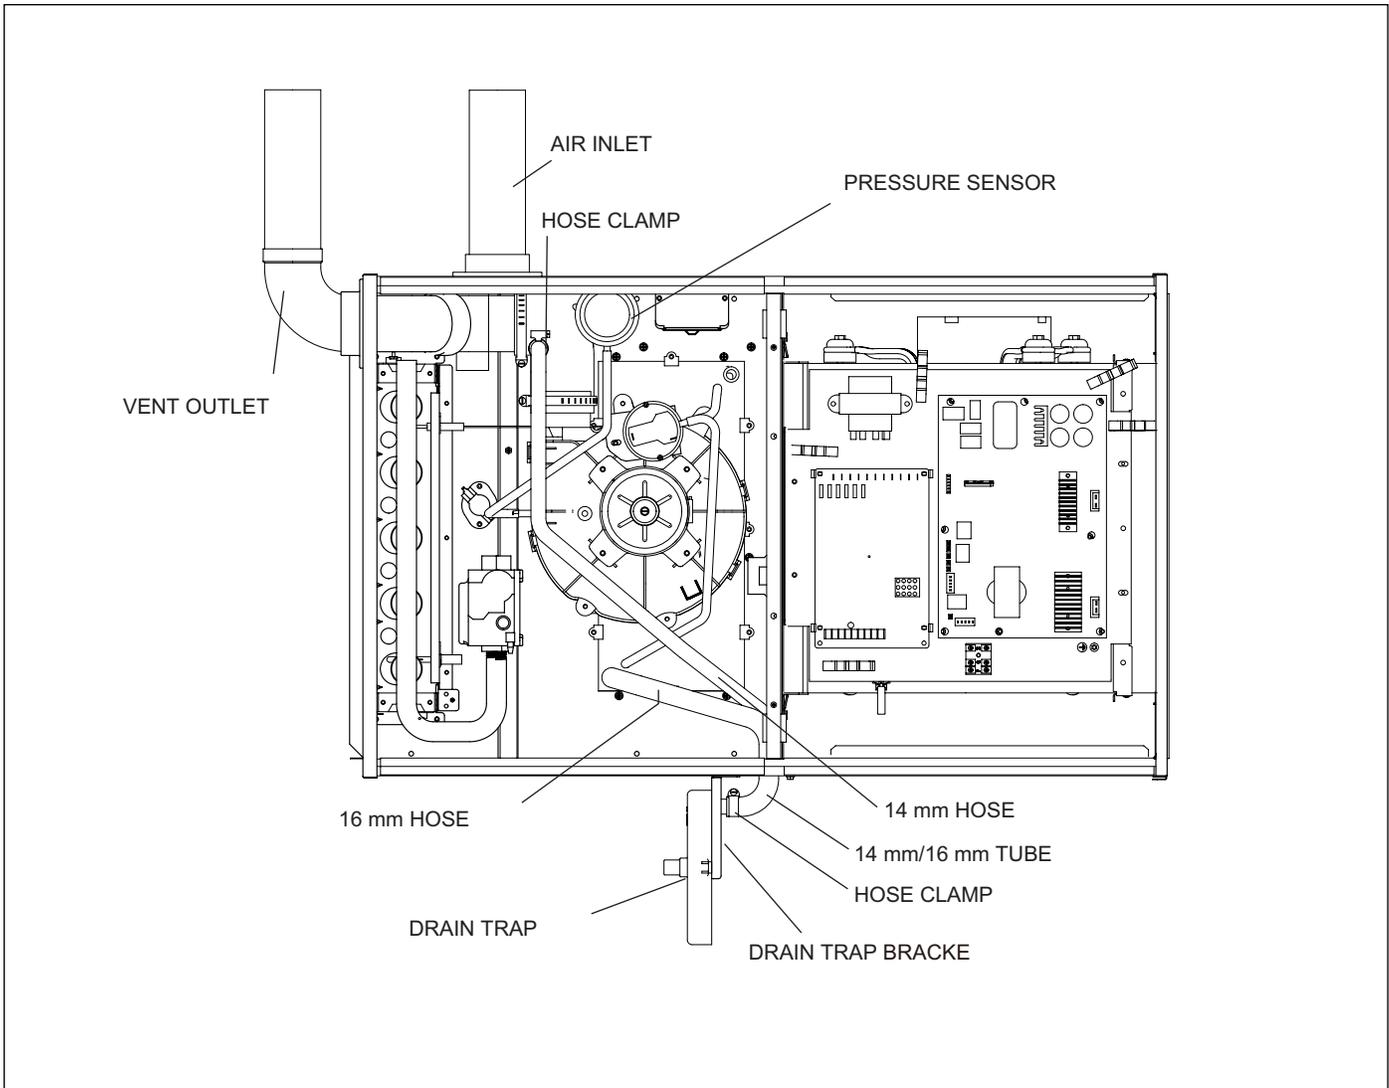

Figure 21 Horizontal left side installation, vent through top panel
For installations with left air discharge and venting outlet through furnace top panel (see Figure 21).
9. Connect 14 mm hose between the side inducer drain port (remove black rubber plug to connect hose) and drain trap. Refer to Figure 21.